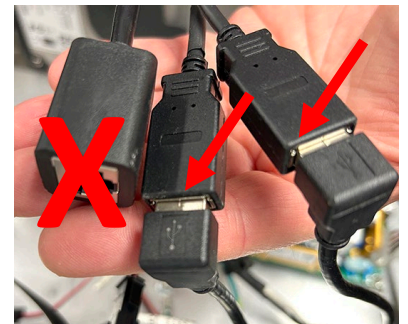

Figure 21
22. Connect the two (2) USB extensions to the harness connected in step 20 (see Figure 21).
23. **DO NOT CONNECT ANY CABLE TO THE ETHERNET CONNECTION IN FIGURE 21 or 22! (see Figure 22). Plugging an IO board harness into this port can permanently damage the controller.**